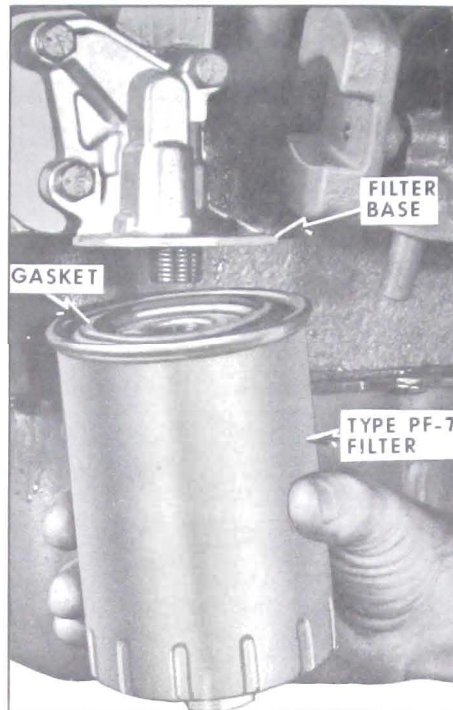

Figure 1-4—Oil Filter Installation
Do not accelerate engine beyond normal idle until oil pressure is indicated. Check filter area for leaks after engine has run for five (5) minutes. See Figure 1-4.